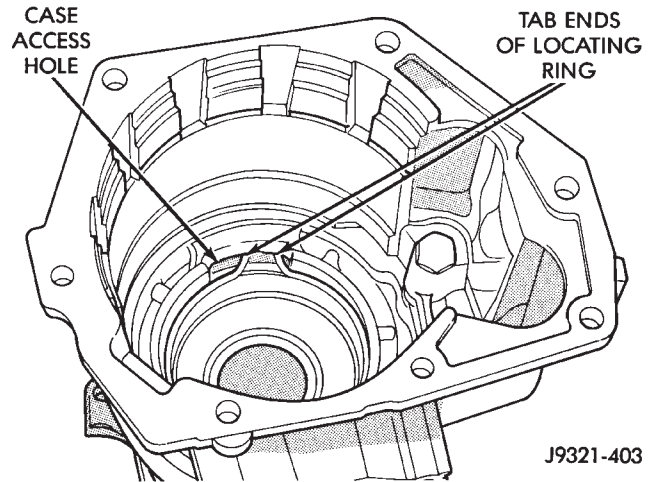

Fig. 240 Correct Rear Bearing Locating Ring Position
(6) Verify that tab ends of rear bearing locating ring extend into access hole in gear case (Fig. 240).